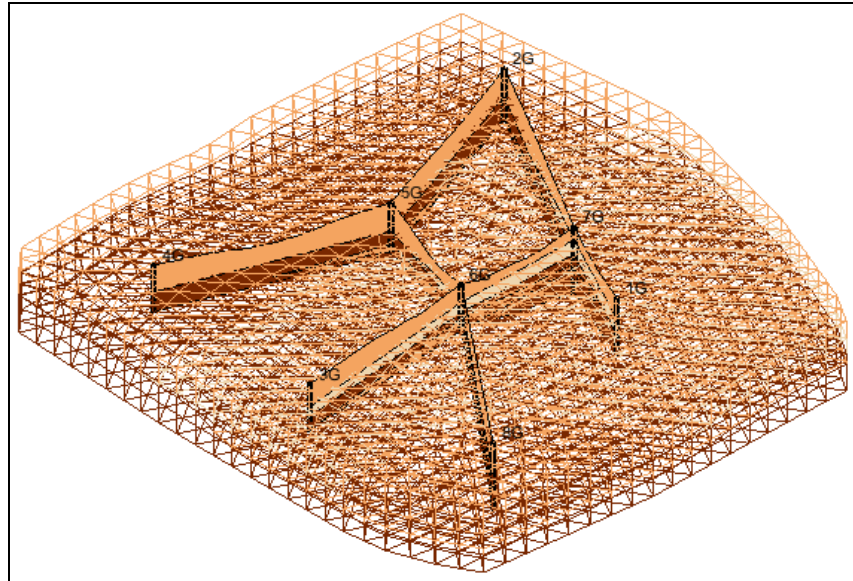

Figure 2 After solids have been created
6. Click **Finish** to close the *Horizons to Solids* dialog. GMS will now create the solids and the Main Graphics Window should appear as in Figure 2.